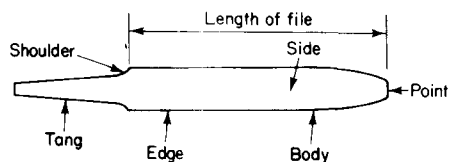

Fig. 4.60
**Types of files.** Fig. 4.60 shows the basic shape of a file. The types of files used for various jobs are shown in Fig. 4.61.